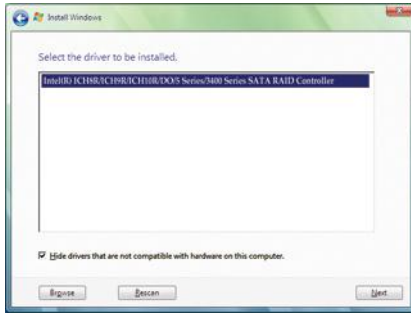

Figure 7
When a screen as shown in Figure 7 appears, select **Intel(R) ICH8R/ICH9R/ICH10R/DO/5 Series/3400 Series SATA RAID Controller** and click **Next**.